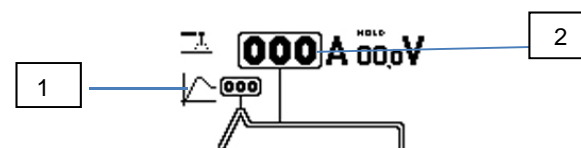

Fig.4
- HOT START OPTION (fig. 4, ref. 1)
- WELDING CURRENT (fig. 4 ref. 2)